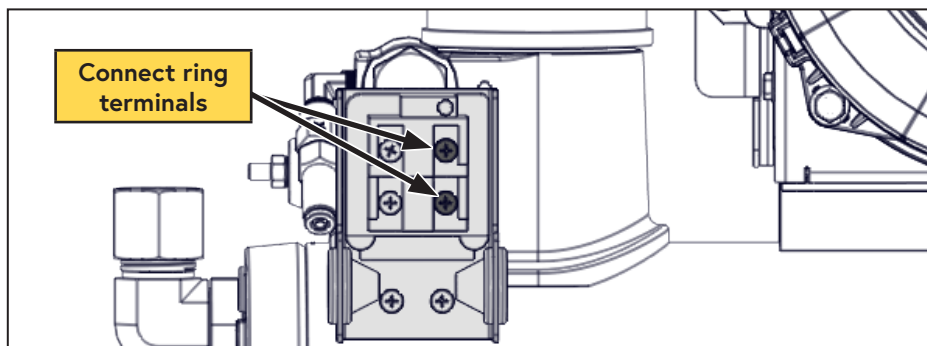

Figure 64 — Connect pressure switch
- Remove the cover from the WHASP Tank pressure switch and connect the 2 ring terminals from the control module to the pressure switch on the WHASP Tank (not polarity dependent) (Figure 64).